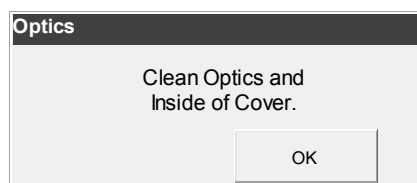

Fig. 2-19 Clean Optics and Inside of Cover
- Gently clean the optics window and the inside top cover of the sample chamber with a soft lint free cloth (Fig. 2-19).